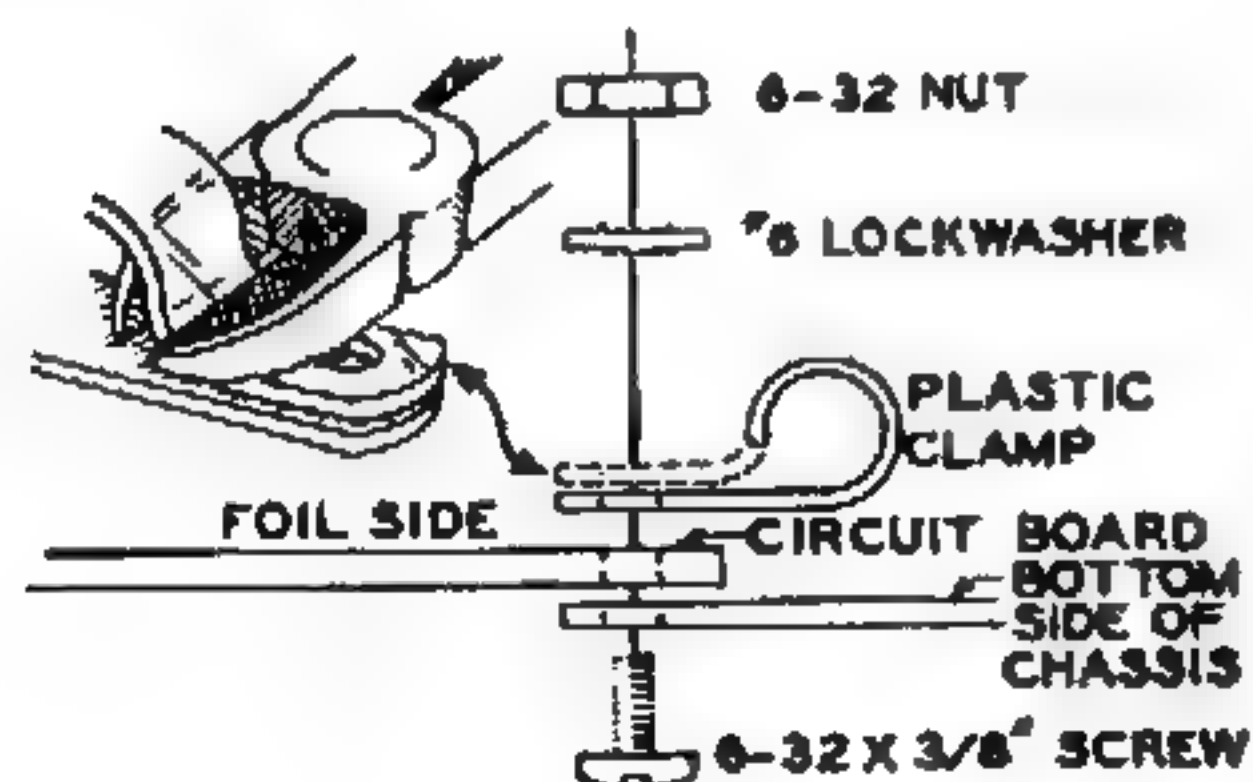

Figure 10
- ( ) Refer to Pictorial 1 and install the circuit board under the chassis, using sixteen 6-32 x 3/8" screws, #6 lockwashers, and 6-32 nuts. Prepare the plastic clamp as shown in Figure 10 and install it under the mounting screw at R on the circuit board.